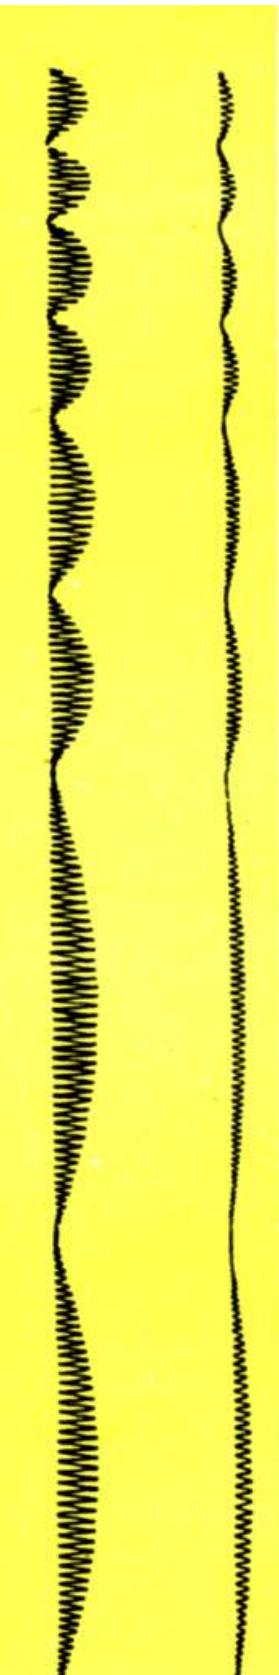

Fig. 31
**NOTE:** At this point, it is desirable to make a simple scale for your permanent use in monogramming, such as shown in Fig. 31.